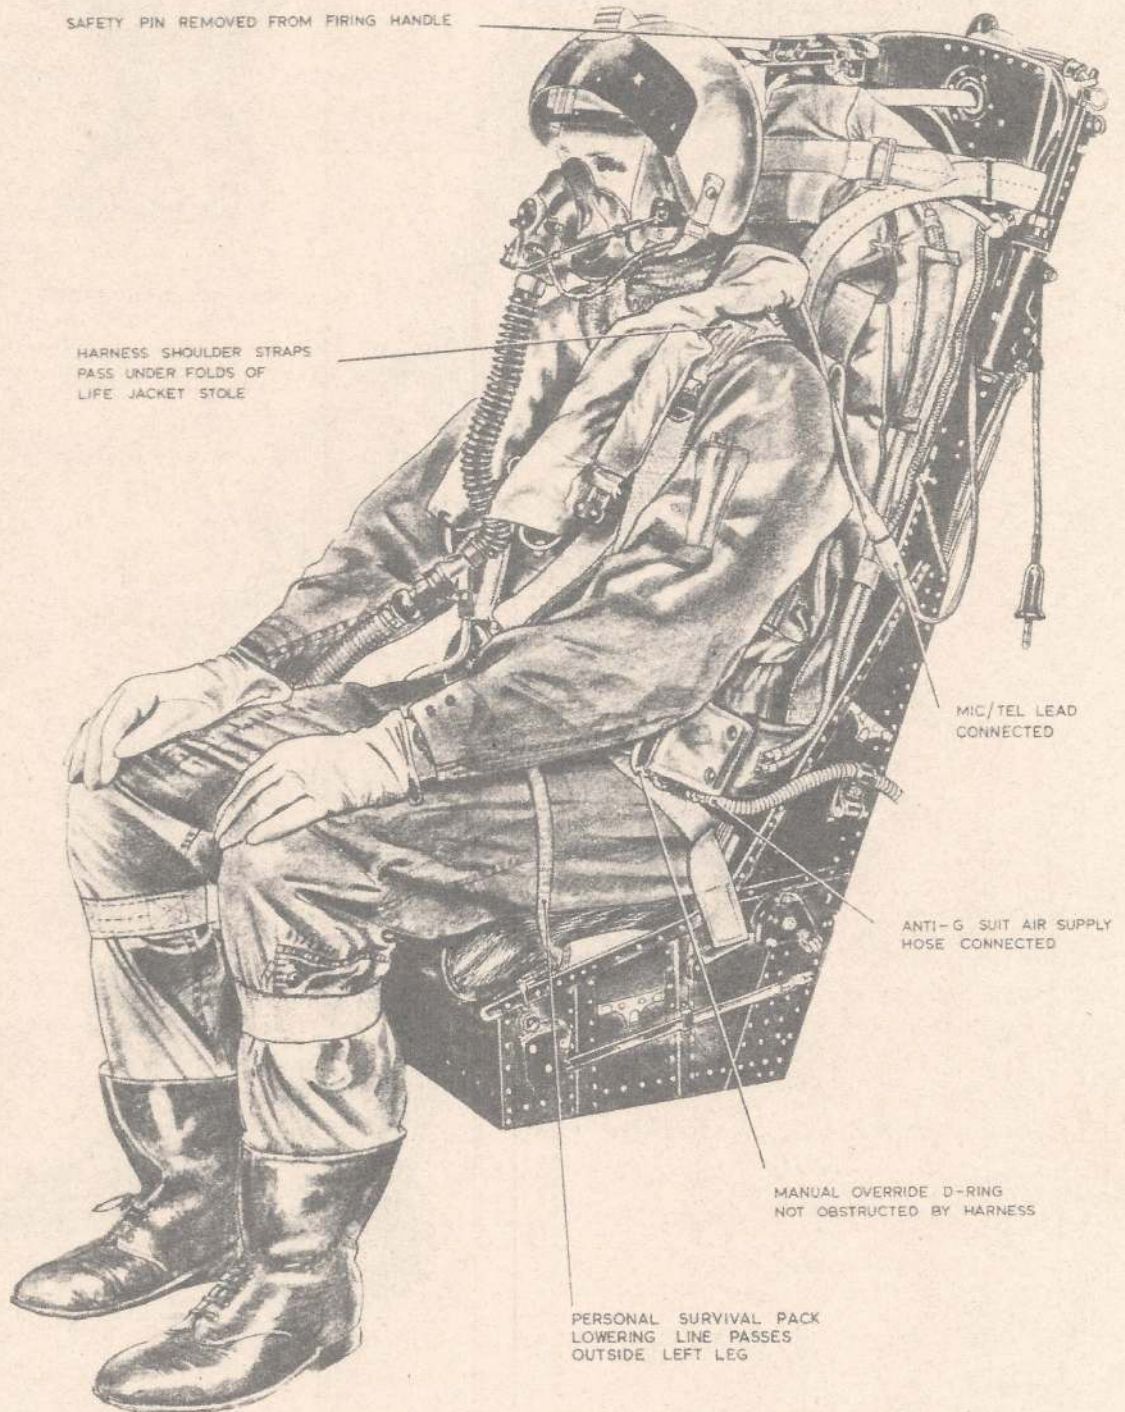

Fig. 7. The seat occupied (1)
- (7) Ensure that the leg restraint cords cross on top of the personal survival pack and behind the leg loops of the parachute/safety harness. ►
16. ◀ Strapping-in procedure is as follows; refer to fig. 7 and 8 for detail, as necessary:—